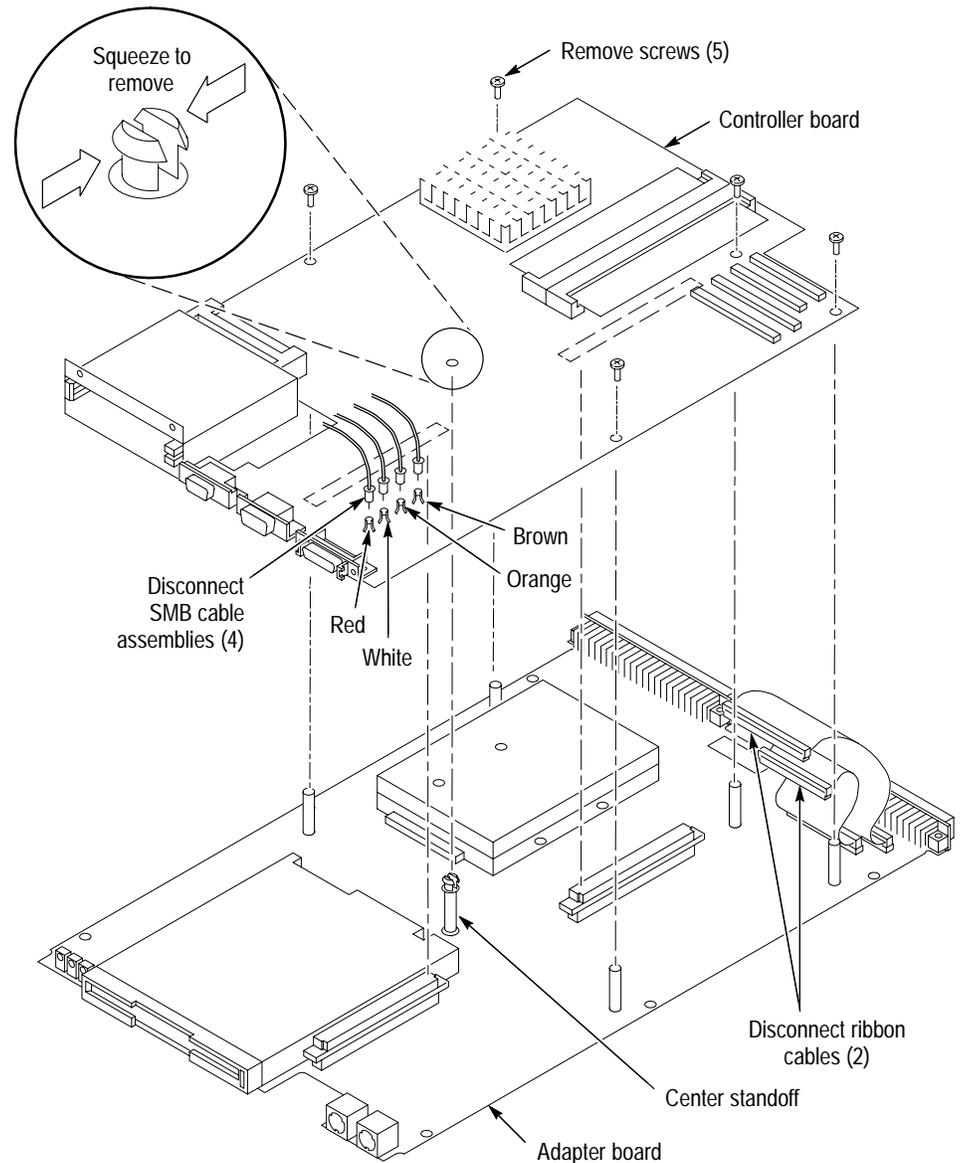

Figure 9: Controller board and Adapter board interconnection
- 12.** Carefully turn the subassembly over and disconnect the four SMB cable assemblies on the Controller board. See Figure 9 and Table 2 for the color code placement of the four SMB cable assemblies.
The hard disk drive is mounted to the Adapter board, which must be separated from the Controller board in order to replace the hard disk drive. Refer to Figure 9 and follow these steps:
2. Carefully turn the subassembly over and connect the four SMB cable assemblies to the four SMB connectors on the Controller board. Figure 9 on page 21 shows the locations for plugging in the four connectors. Table 2 identifies each connector by color code and signal name.